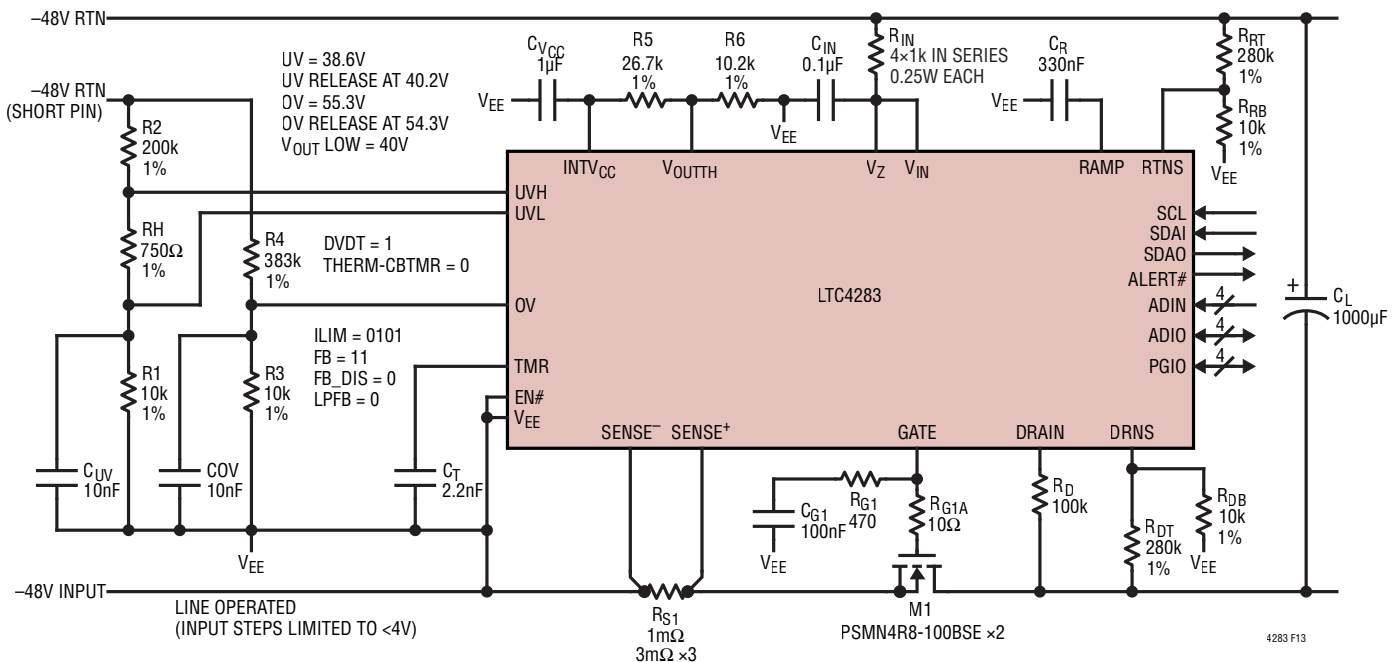

Figure 13. -48V/800W Hot Swap Controller with dV/dt Inrush Control
The second example is a line operated -48V system with supply tolerance of 10% (-43.2V to -52.8V) and maximum load power of 800W as shown in Figure 13. The load capacitance is specified as $C_L = 1000\mu\text{F}$.
INTV_{CC} (5V) and V_{EE}. The divider ratio is 5V/1.379V = 3.63. A divider of 26.7k and 10.2k as shown Figure 13 gives a close enough ratio of 3.62.
Although it is possible to use a single, four-resistor (or three-resistor if UVH and UVL connected together) divider as shown in Example 1, Step 7, two independent dividers with 2 (OV) or 2 to 3 (UV) resistors in each divider make it easier to make non-interactive changes at a later time. The two dividers as shown in Figure 13 gives UV shutdown at 38.6V, UV release at 40.2V, OV shutdown at 55.3V and OV release at 54.3V, which covers the full input voltage range of this example. 10nF capacitors filter out noises on UVL and OV.